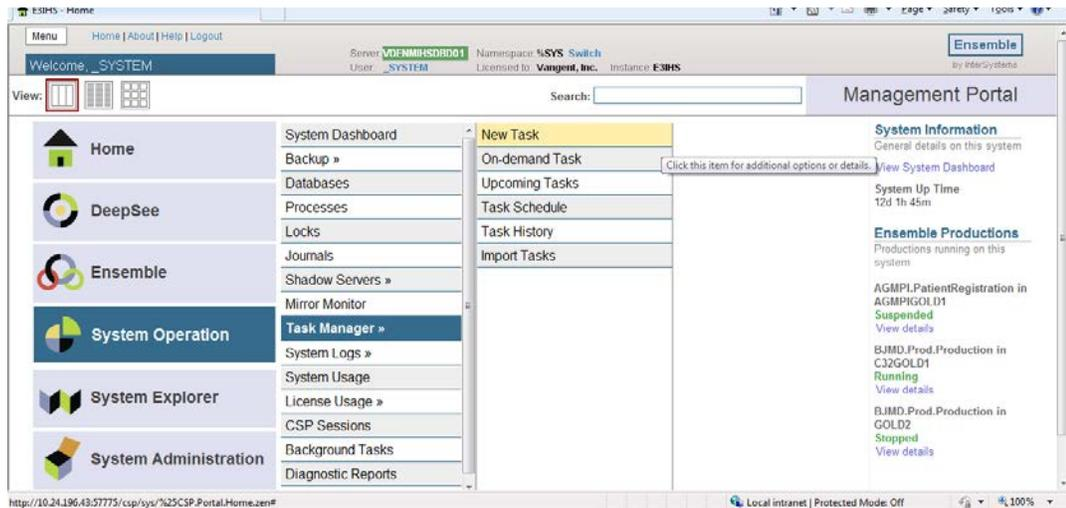

Figure 6-2: Task Manager menu
1. On the Management Portal page, click Task Manager to display the Task Manager menu, as shown in Figure 6-2.